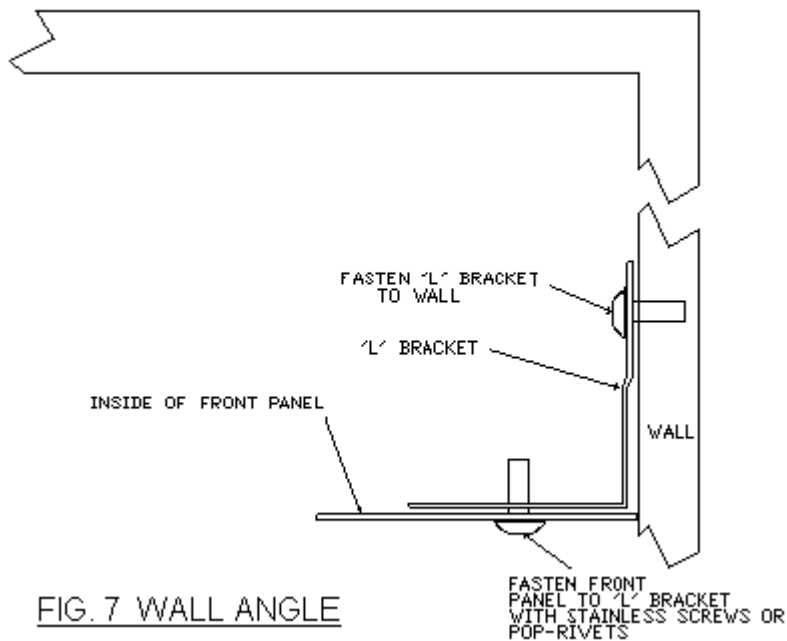

FIG. 7 WALL ANGLE
8. Locate the other side panel. Repeat steps 2,3,4. Pop rivet as previously done in step 5. Note: In most instances where hood is located against a side wall, fasten the front wrapper panel to the "L" bracket. A second side panel will not be shipped. Pop rivet or screw front wrapper panel to bracket. (Fig. 7)